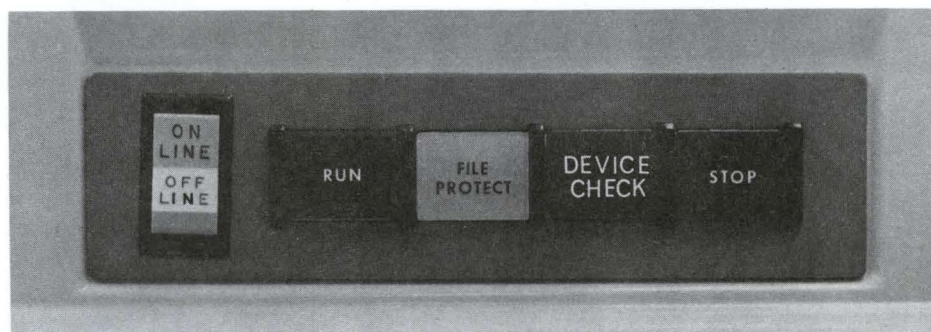
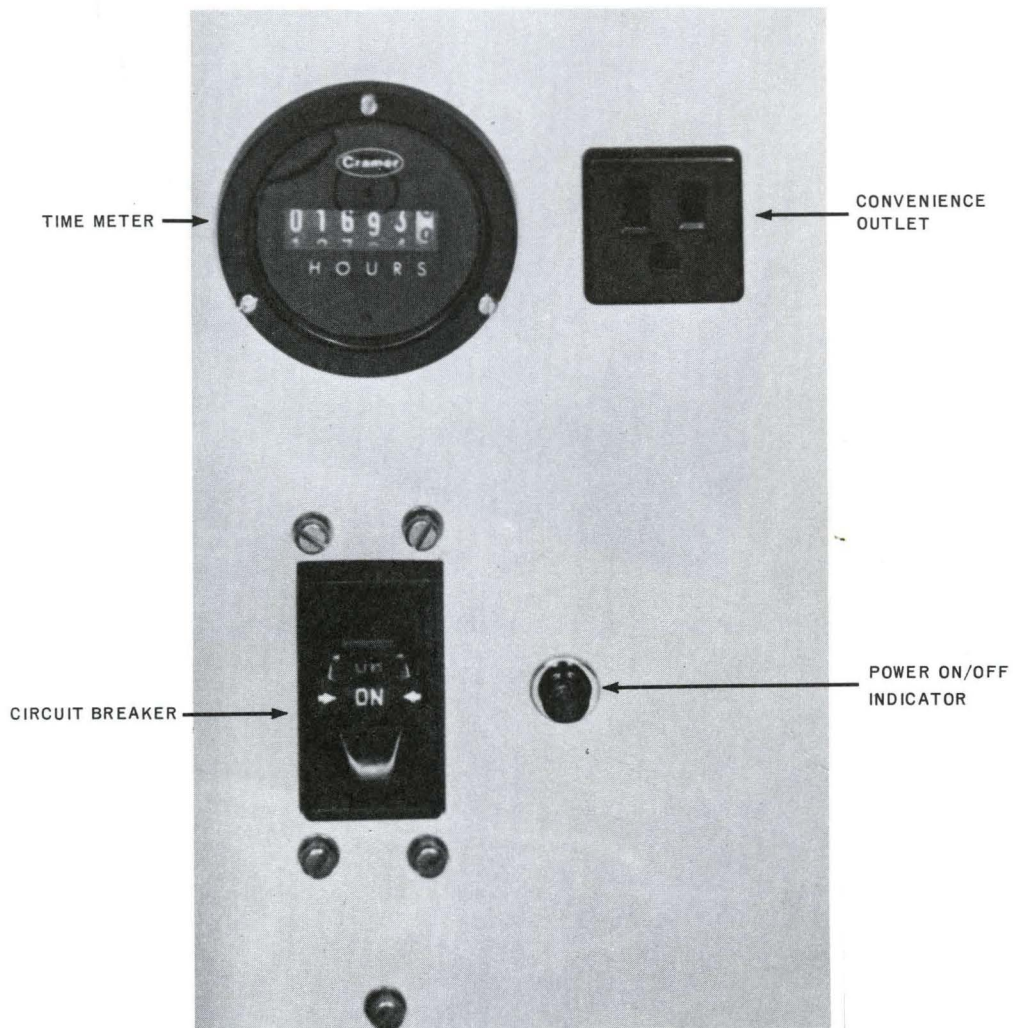
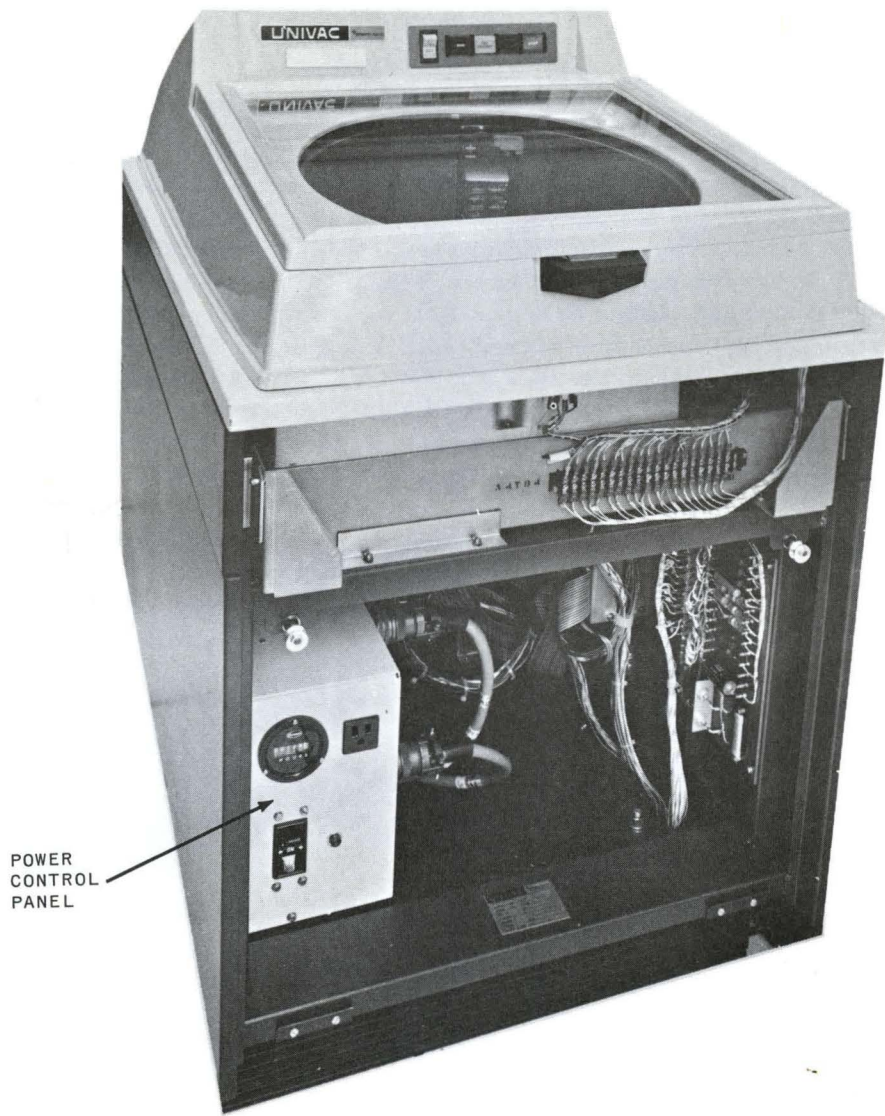

Figure 3-5. Disc Drive Unit Operator's Control Panel, Controls and Indicators
Figure 3-6. Disc Drive Unit Power Control Panel, Control and Indicator
Figure 3-7. UNIVAC 8411 or 8414 Disc Drive Unit, Access to Power Control Panel
The disc drive unit operator's control panel for either subsystem (Figure 3-5) is located on the top front of each disc drive unit. Each control and indicator, and its function, is described in Table 3-4.
The disc drive unit power control panel (Figure 3-6) for either subsystem is located behind the front panel of the cabinet (Figure 3-7) and is accessed by removing the front panel. (Press both circular latches located in the top half of the front panel and lift the panel up and out of the cabinet frame to reveal the control panel.) The power control panel contains one circuit breaker and one indicator. In the ON position, ac power is applied to the unit; the indicator lights when power is present. In the OFF position, ac power is shut off from the unit; the unit shuts down and the indicator turns off. The unit shuts down automatically and the circuit breaker goes to the OFF position if an overload occurs anywhere in the unit. The DEVICE CHECK indicator also lights if ac power is lost or the unit shuts down. The time meter and convenience outlet are for engineering maintenance of the unit (to be performed only by the Univac field engineer).
- (1) Remove front panel of cabinet to expose power control panel (Figure 3-7).
- (2) Set ac power circuit breaker to ON position. Power on/off indicator (Figure 3-6) lights; STOP indicator lights on operator's control panel (Figure 3-5); all other indicators are off.
- (3) Replace front panel of cabinet.
- (3) Check the disc drive unit(s) operator's control panel (Figure 3-5) to ensure that the STOP indicator is lit and all other indicators are turned off.
- (1) Press the ON LINE/OFF LINE rocker switch on the operator's control panel (Figure 3-5) to the OFF LINE position.
- (1) Check the CH X and CH Y switches, located on the control unit maintenance panel (Figure 3-1), to ensure that they are online (press bottom of each switch) if the processor is to operate with the subsystem; check the ON LINE/OFF LINE switch on the disc drive unit operator's control panel (Figure 3-5) for online or offline operation.
- (2) Press the RUN switch/indicator, located on the disc drive unit operator's control panel; the top half of the indicator lights; the STOP indicator turns off; all other indicators are off.
- (3) Observe that the bottom half of the RUN indicator lights when the read/write heads are positioned at track 0 of the disc pack; illumination indicates that the unit is fully operational and ready for reading or writing.
- (4) Press the ON LINE/OFF LINE rocker switch to ON LINE.
At the end of daily operation, ac power controls, located on the control unit power control panel, usually can be left in the up position (on) because ac power sequencing is turned on and off when the processor is turned on and off (if in remote condition). The indicators of the disc drive unit(s) need only be observed to ensure that the STOP indicator(s) is lit. The ac power ON/OFF circuit breaker (Figure 3-6), located on the disc drive unit power control panel, must not be placed in the OFF position unless the subsystem is to be turned off completely.
- (1) Press STOP switch on all disc drive unit operator's control panels.
- (2) Raise DC OFF switch to up position (off) on the control unit.
- (3) Remove ac power from the disc drive unit by resetting the ac power circuit breaker, located on the power control panel, to the OFF position; the power on/off indicator and STOP indicators turn off.
- (4) Set to the down position all switches itemized in steps (2) through (5) of the procedure for turning on a completely turned-off subsystem. (See 4.2.1 and Figures 3-6 and 3-7.)
- (5) Release the 24 VAC and 7 VAC circuit breakers, located on the control unit power control panel, by pressing latch under each circuit breaker.